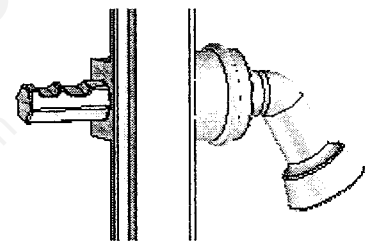

Fig. 2
4.) Check that the drilled hole is free of burrs. Slide handle into 10mm hole. **DO NOT LUBRICATE!** (Fig. 2)